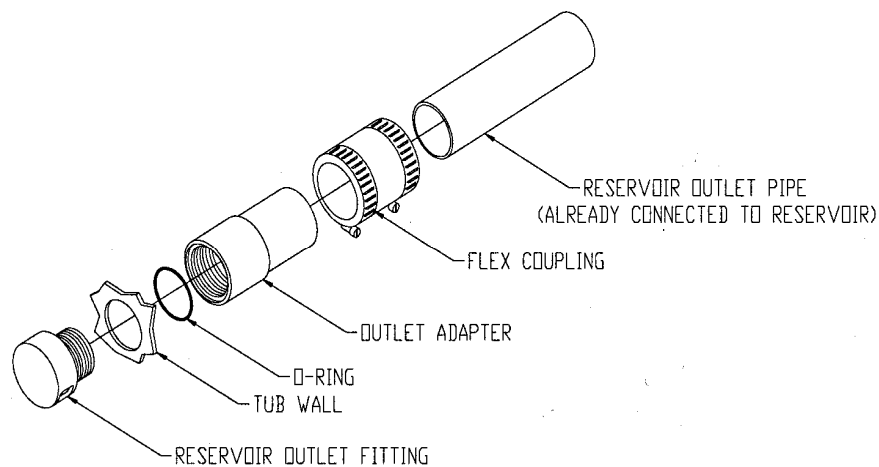

Figure 8
3/4" supply lines with on/off valves with 3/4" NPT female threads. We recommend 3/4" ball valve with 3/4" NPT female ports. (Valves supplied by others.) See figure 8 for recommended locations.
2. Replace the plug with the reservoir outlet fitting, Gasket, and outlet adapter. (These are packed with the reservoir) See figure 8 for assembly order. Ensure that the opening of the outlet fitting is pointed directly down after final tightening.
2. Connect the reservoir outlet pipe to the outlet adapter with the provided flex coupling and tighten. Reference Figure 8.